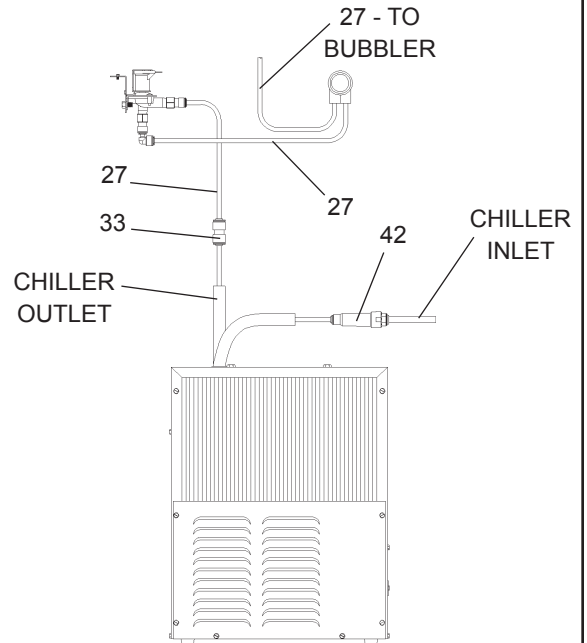

Figure 15 – HRFER-EE-Q Tube Routing
4. **Make water supply connections.** Inlet port is marked on the chiller (1/4" O.D. copper tube). Bend the copper tube (provided) at an appropriate length from the chiller to opening in frame. Install the in-line strainer (provided with chiller) by pushing it in until it reaches a positive stop, approximately 3/4" (19mm) on the marked chiller inlet port (See Figs. 15 & 16). Attach an unplated and deburred copper water inlet line and a service stop (not provided) to the chiller. Turn on the water supply and flush the line thoroughly.
5. **Make connection between remote chiller outlet tube and solenoid valve assembly.** Outlet port is marked on the chiller (1/4" O.D. copper tube). Install a 1/4" union/tee (provided) on the marked chiller outlet port. Insert one end of 1/4" poly tubing into the union/tee and the other end into the straight fitting on the solenoid valve assy (See Figs. 15 & 16)
7. **Install fountain.** Remove bottom access panel on underside of fountains and **SAVE** the screws. Mount the fountains to the upper panel and frame with (4) 5/16" x 3/4" (19mm) long bolts and nuts provided. Tighten securely.
9. **Make connection between solenoid valve assembly and fountain(s).** Insert the 1/4" poly tubing coming from the fountain with sensor into the solenoid valve. Insert the 1/4" poly tubing coming from the fountain with push button into the tee (See Figs. 15 & 16).